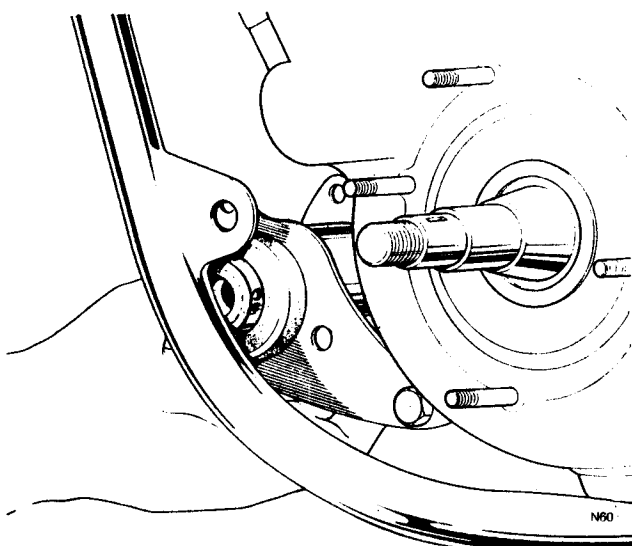

Fig. C39 *Lifting front mounting into position using bottom bolt as pivot*
- 3 Using the bottom stud as the pivot, lift the mounting into position on the crankcase bosses as in Fig. C39.